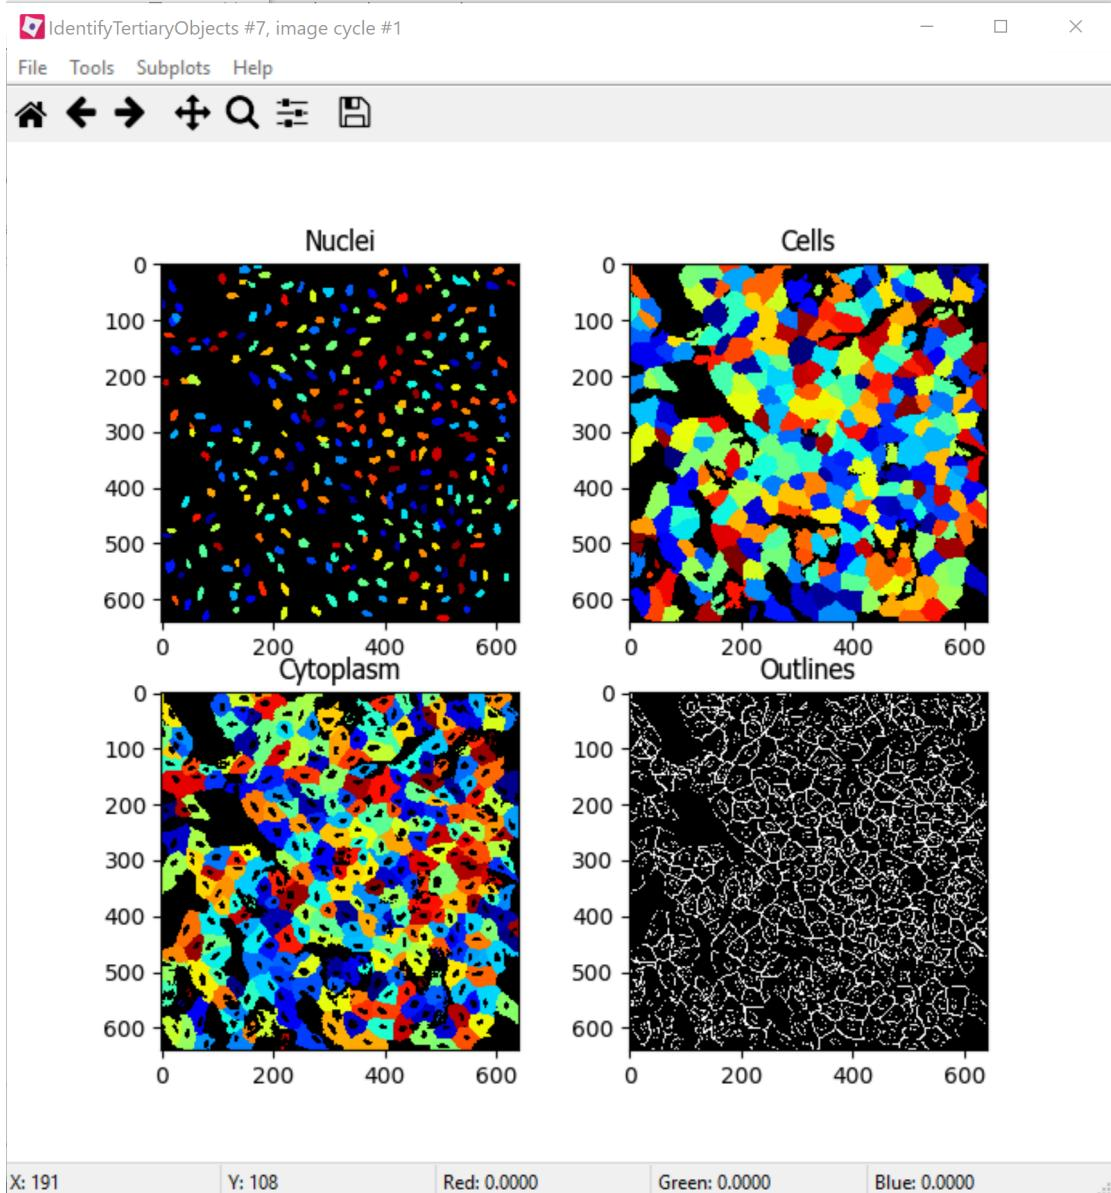

Figure 5: Example module display window for IdentifyTertiaryObjects
- Click the  Step button to execute the module, and preview the results of tertiary object identification (Fig. 5).